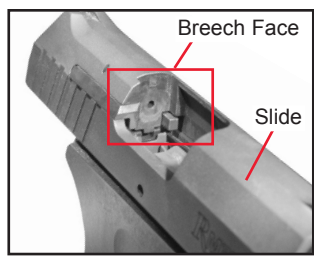
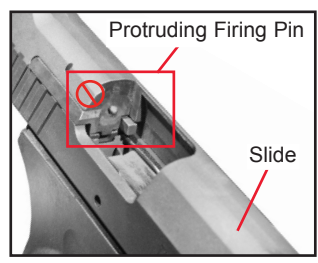

Figure 10
Figure 10b
7. Check the Breech Face ensuring the Firing Pin is not protruding. See Figure 10. If the Firing Pin is protruding from the Breech Face as in Figure 10b, do not attempt to load or discharge the firearm. Have the firearm inspected by a Remington Authorized Repair Center before use.